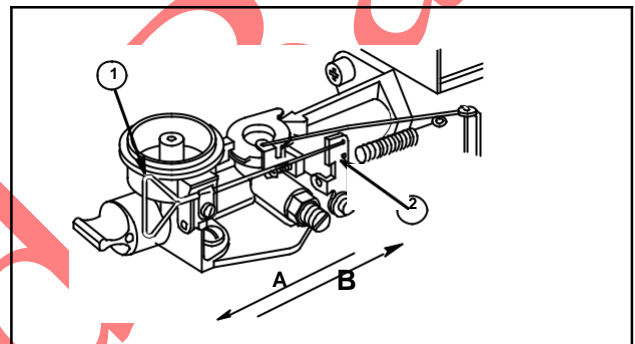

Fig. 24
Pull out rod (1) to increase speed (A), governor spring in this hole (2) in speed adjusting lever, Fig. 24.